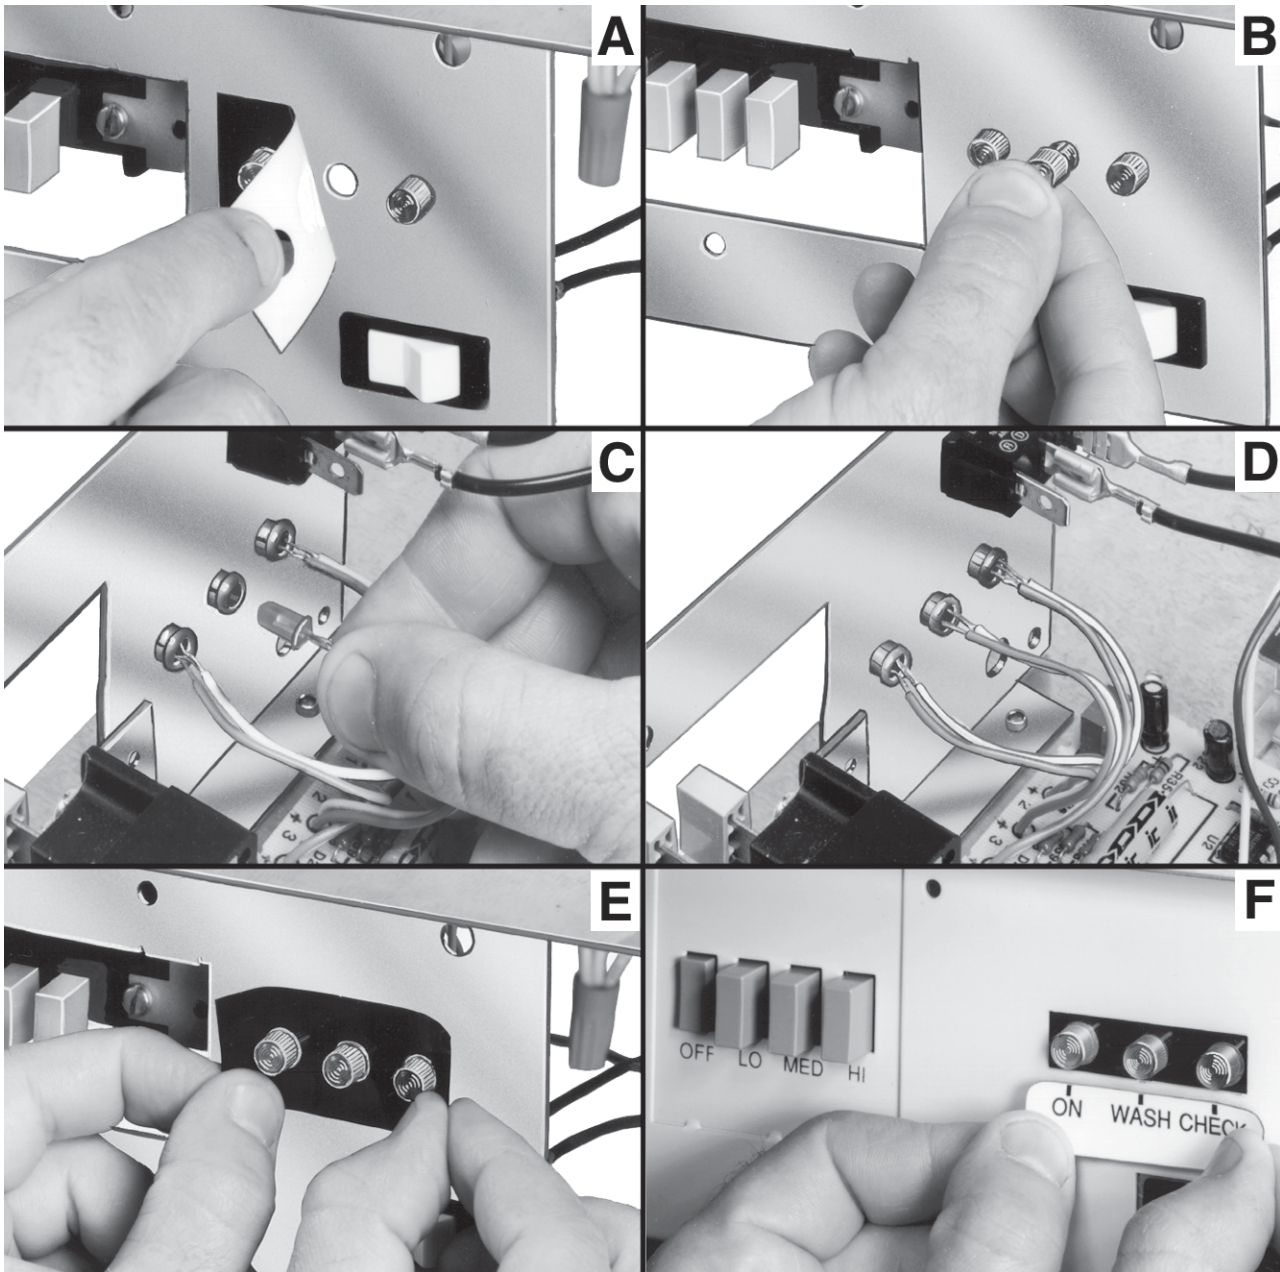

Fig. 4. Installing Optional Wash LED.
Two light-emitting diodes LED(s), ON and CHECK, are included with the F57. The ON LED lights when the solid-state power supply is powered and operating normally. The CHECK LED lights if the F57 requires service attention or if the test button is pressed. A WASH LED is also supplied with the F57 but it is not factory installed. It can be field installed using 4074 EMH Bag Assembly which is supplied with the F57. See Fig. 4. The WASH LED lights to indicate cell washing is overdue.
- If installing optional WASH LED, remove power supply cover. Refer to Fig. 4 and the corresponding steps below: